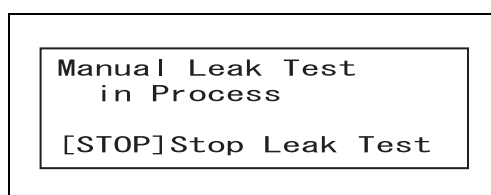

Figure 5.30
- 5 Confirm that the indicator as shown in Figure 5.30 is displayed on the LCD. Immerse the endoscope in a basin that contains clean water.